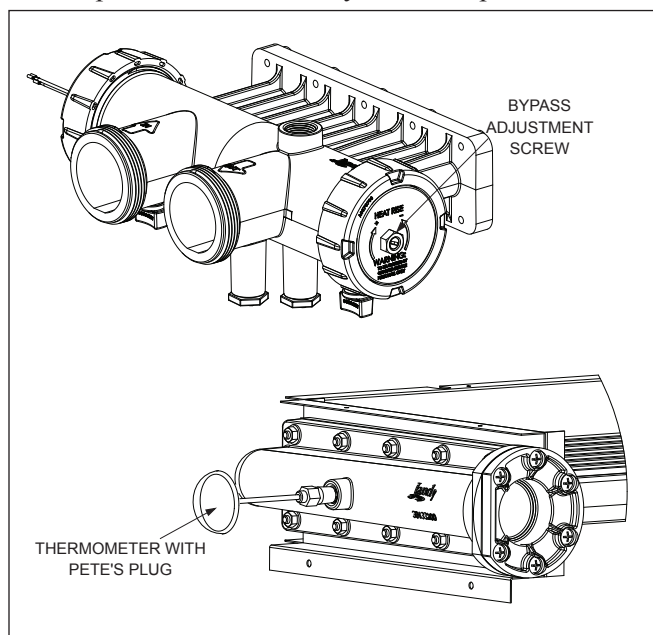

Figure 20. Temperature Rise Measurement
is measured in the return header of the Legacy. To measure the temperature rise, turn off the filter pump and remove the plastic plug protruding through the cabinet on the return header side of the heater. See Figure 20. With the plug removed, install the special thread adapter and Pete's Plug® fitting and insert a pocket thermometer. A temperature rise measurement kit is available through your Jandy distributor. See Section 11 of this manual for the correct kit number.
6. Locate the bypass adjustment screw on the right-hand side of the header (see Figure 20). Loosen the nut so that the screw can be adjusted. A slight water leak past the nut may be expected. Turn the screw counterclockwise to decrease the temperature rise, and clockwise to increase the temperature rise as needed to achieve the ranges in Table 6. After the adjustment, tighten the nut so that no leaks occur.